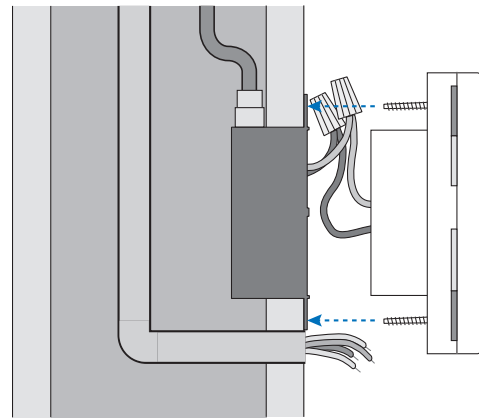

Figure 2
- On a smaller electrical box (Figure 2) where the extra low voltage (ELV) wiring enters the module from outside the electrical box. The ELV wiring must be used only on CEC/NEC Class 2 circuits per the CEC/NEC.